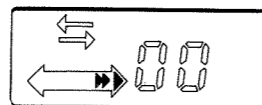

Fig. 1-3f
- During playback you can make the recorder search for the beginning of the next or the previous track by pressing key ②⑦ "NEXT" or key ②⑧ "PREVIOUS". The display will light up as shown in Figs. 1-3f and 1-3g.